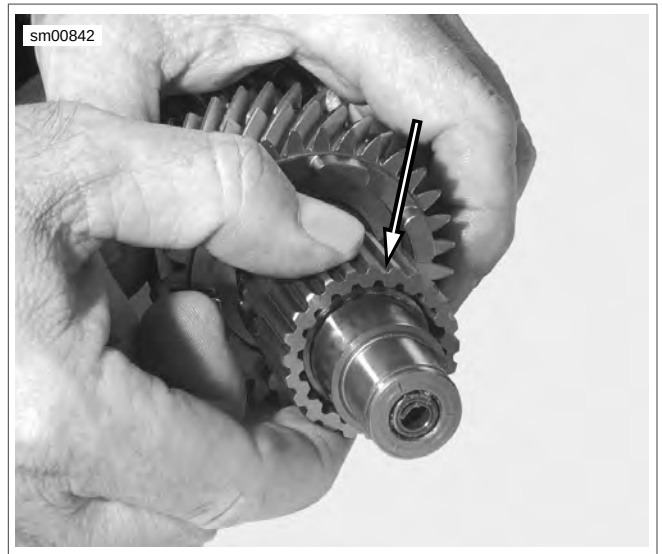

Figure 6-141. Splined Slider
7. See Figure 6-141. Remove splined slider.